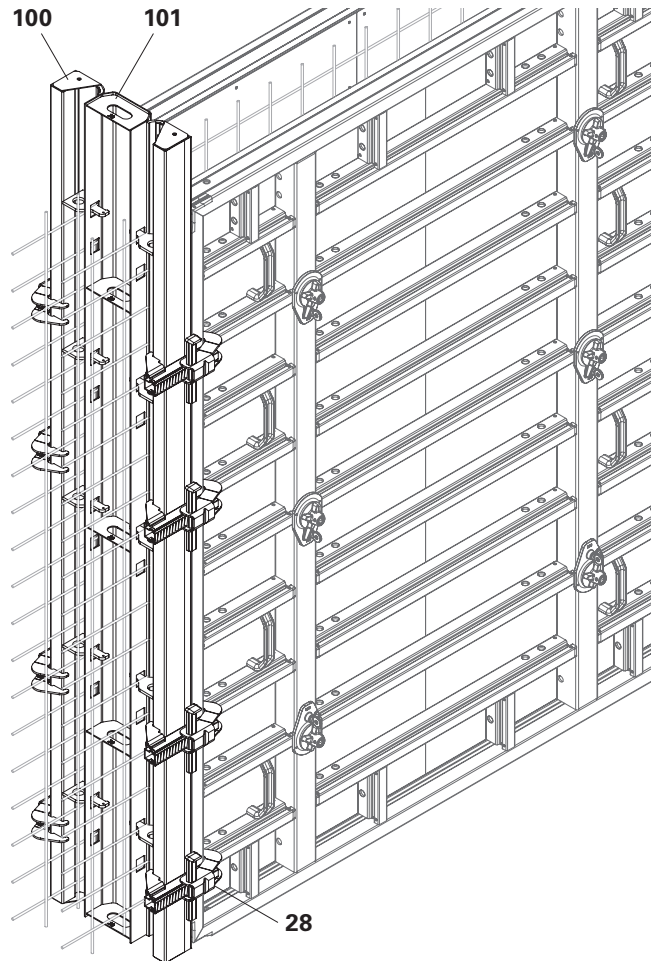

Fig. C9.05
2. Fix Stop. Panel TRIO AT (100) to the primary formwork by means of the Alignment Coupler BFD (28).
4. Position Stop. Panel TRIO MT (101).
6. Fix Stop. Panel TRIO AT (100) to the closing formwork by means of the Alignment Coupler BFD (28).
7. Position the closing formwork and in doing so insert Stop. Panel TRIO AT (100) into Stop. Panel TRIO MT (101). (Fig. C9.05)